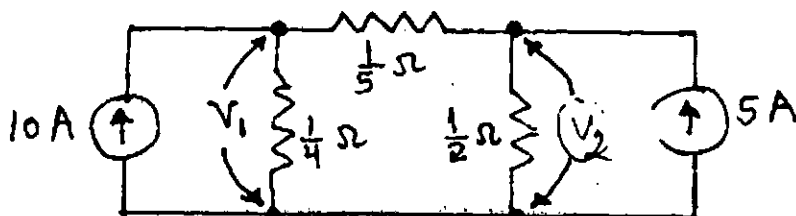

Fig. 3
- 2 a) Find V_1 and V_2 in Fig.3. (7 + 7)